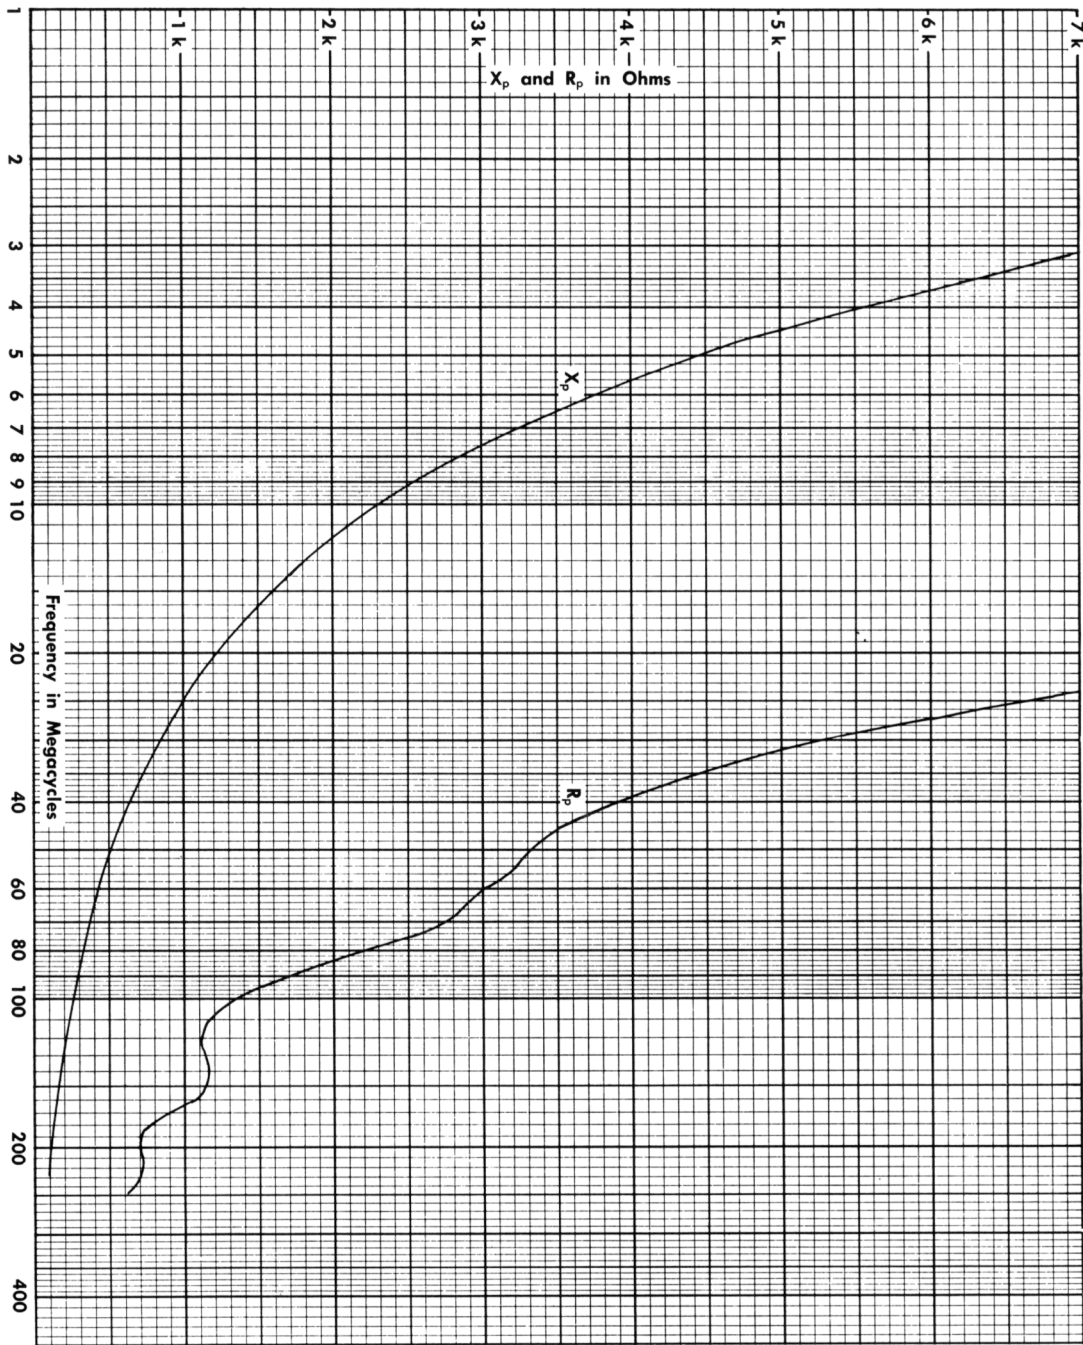

Fig. 2-3. P6008 Input Resistance and Reactance Versus Frequency.
10 megohms paralleled by about 7 pf. Fig. 2-3 shows input impedance vs frequency up to 250 megacycles.
1. Loading—Fig. 2-3 is a graph of the probe input resistance and reactance versus frequency measured with the probe connected to the plug-in and an R-X meter connected to the probe input.  $X_p$  represents capacitive reactance, and  $R_p$  represents resistance. The input impedance of the probe may affect the operation of the circuit under test.